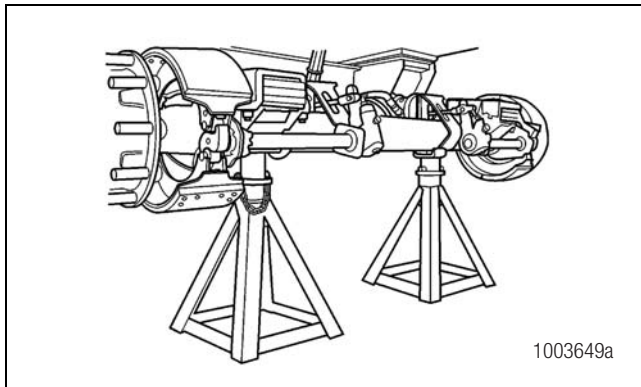

Figure 5.6
1. Raise the trailer until the tires are off the ground. Place safety stands under the trailer frame or under each trailer axle spring seat. Do not support the vehicle only by jacks. Figure 5.6.